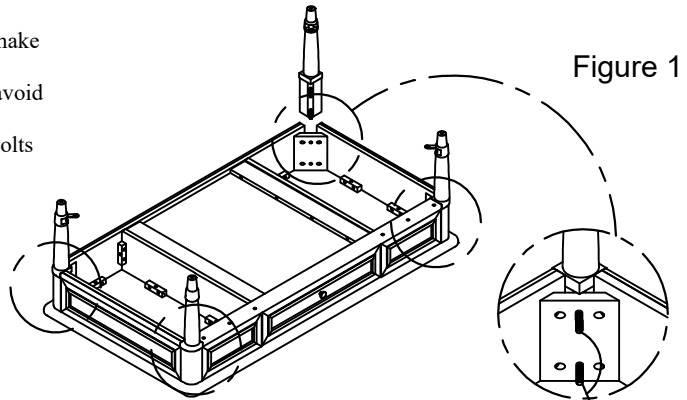

Figure 1
2. Attach 4 legs to the top frame and tighten bolt with Lock Washer (E)+Flat Washer (F) +Hex Nut (D) by Spanner Wrench (G) as shown in Figure 1.